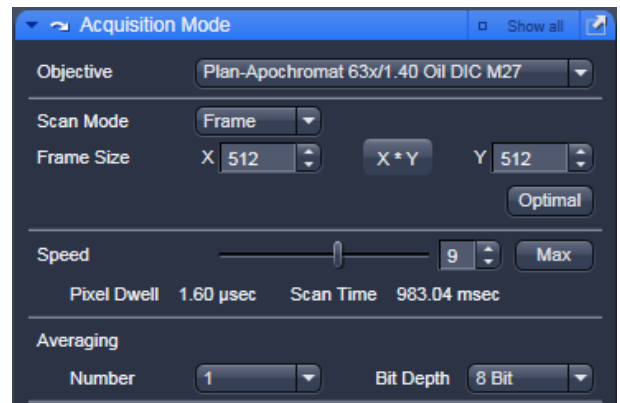

Fig. 252 Acquisition Mode tool
- Open the **Acquisition Mode** tool (Fig. 252).